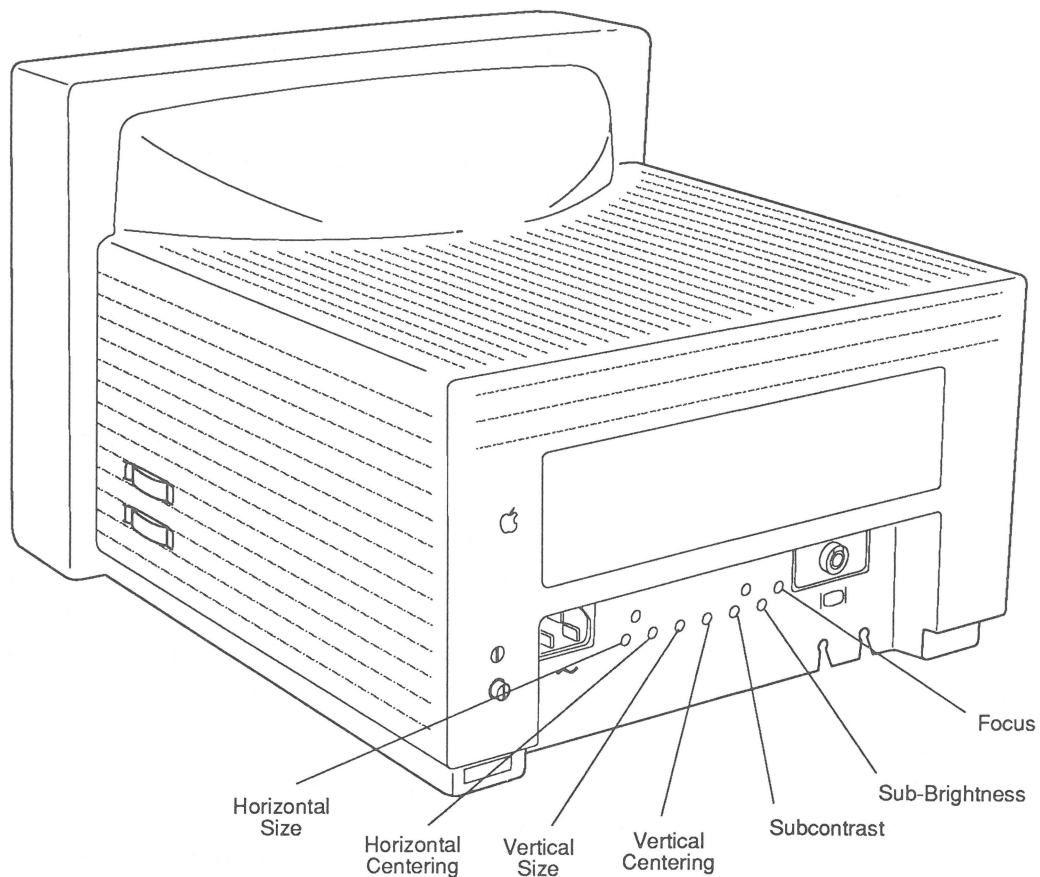

Figure 3-4 Service Adjustment Controls
Using the plastic adjustment tool, adjust the horizontal size (H.SIZE) control (**Figure 3-4**) until the width of the display is $213.5 \text{ mm} \pm 2.5 \text{ mm}$.
Using the insulated screwdriver, turn the horizontal centering (H.CENT) control (**Figure 3-4**) until the raster is centered (left to right) within the bezel.
2. Using the insulated screwdriver, turn the vertical size (HEIGHT) control (**Figure 3-4**) until the raster is $159.5 \text{ mm} \pm 2.5 \text{ mm}$.
1. Using the insulated screwdriver, turn the vertical centering (V.CENT) control (**Figure 3-4**) until the raster is centered (top to bottom) in the bezel.
4. Adjust the focus control (**Figure 3-4**) to achieve the best overall focus.
3. Adjust the sub-brightness control (**Figure 3-4**) until the left bar is black and the next bar to the right is barely visible.
5. Adjust the subcontrast control (**Figure 3-4**) until the light meter reads in the middle of the "10" scale. This reading should be 33 foot-lamberts.